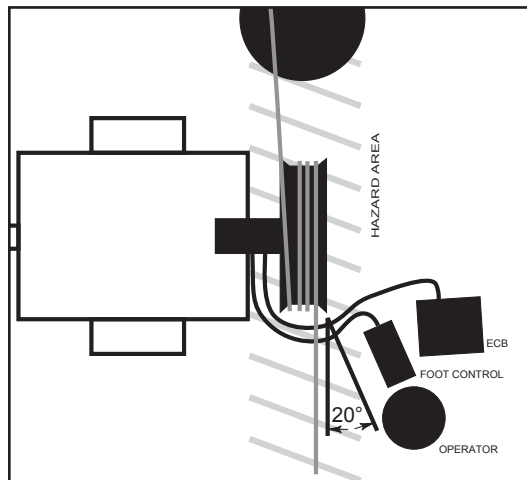

Figure 3. Foot Control Valve Assembly Placement
2. Position the foot control valve at least 3 to 4 feet (0.9 to 1.2 m) from the capstan's feed-off side (figure 3). Position the foot control in the best possible location for safety and proper operation. Multiple operators may be required for safety or operational requirements.